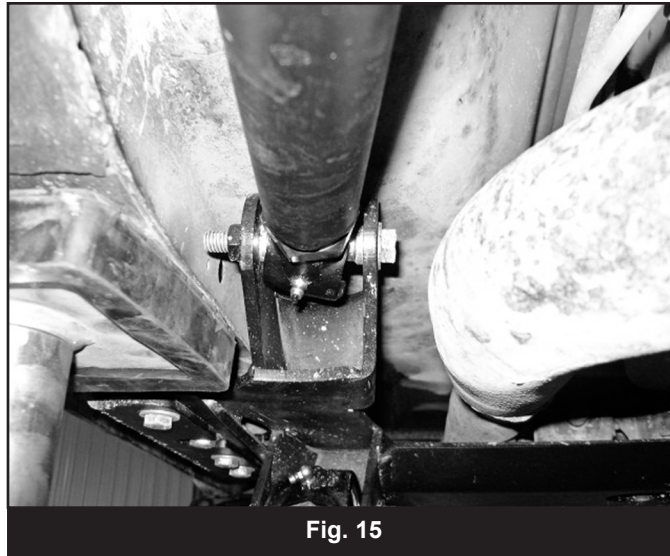

Fig. 15
38. Install the new upper control arms into the new upper control arm pockets in the crossmember (Fig 15). Fasten the arms with 7/16" x 3-1/2" bolts and 7/16" SAE washers (BP 715) into the welded nut on the crossmember. Use Loctite® on the bolt threads.